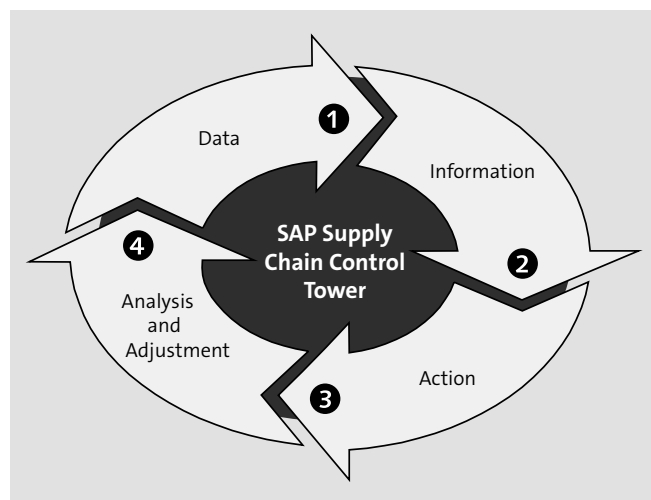

Figure 14.1 Analytics Cycle for Continuous Improvement
Figure 14.1 shows an example of an analytics cycle. The available data ❶ is converted into information ❷ that guides the appropriate action ❸. The results of an action are analyzed to make a decision or course correction ❹. This process is a virtuous cycle that keeps your organization on the path of continuous improvement.